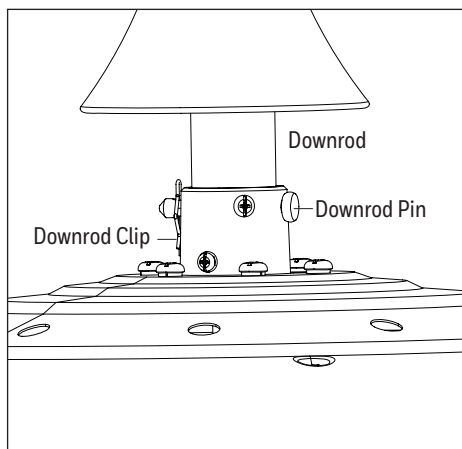

Figure 3.2
2. Slide the downrod into the yoke of the motor assembly. Align holes and reinstall the downrod pin and downrod clip and secure with the set screws (Figure 3.2).